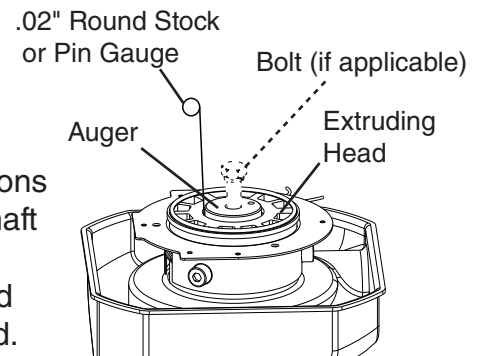

Fig. 8
- 5) Replace the bolt in the auger (if applicable). See Fig. 8. Move the auger towards you and then try to insert a .02" round stock or pin gauge in between the back side of the auger shaft and the bearing surface. Check several locations around the auger shaft. If the gauge goes between the shaft and the bearing at any point or if the bearing is scratched or cracked, both the top bearing in the extruding head and the lower bearing in the lower housing should be replaced. Instructions for removing the extruding head and lower housing are located later in this procedure.